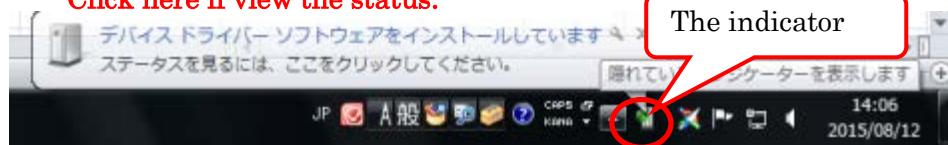

Fig 1 Connection of the computer and Driver
- (1) Please connect the computer and AU9290 (or AU9300) with a USB cable as Fig 1, and then turn on the power of AU9290 (or AU9300).
- (3) Please connect the computer and AU9290 (or AU9300) with a USB cable as Fig 1, and then turn on the power of AU9290 (or AU9300).
- (4) Start 「Device manager」. Starting method is as below.
- (5) Right-click on 「STM32(or STMicroelectronics) Virtual COM Port」 in 「Other Device」, and select 「Update Driver Software」.
(6) Select the 「Browse my computer for driver software」 on the window that appears.
- (2) Start 「Device manager」. Starting method is as below.
- (3) Click 「Port」